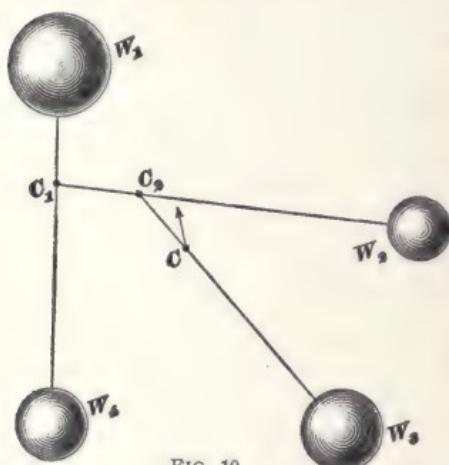

FIG. 10.
**Rule 11.**—Find the center of gravity of two of the bodies, as  $W_1$  and  $W_4$  in Fig. 10. Assume that the weight of both bodies is concentrated at  $C_1$ , and find the center of gravity of this combined weight at  $C$ , and the weight of  $W_2$ . Let it be at  $C_2$ ; then find the center of gravity of the combined weights of  $W_1$ ,  $W_4$ ,  $W_2$  (concentrated at  $C_1$ ), and  $W_3$ . Let it be at  $C$ ; then  $C$  will be the center of gravity of the four bodies.